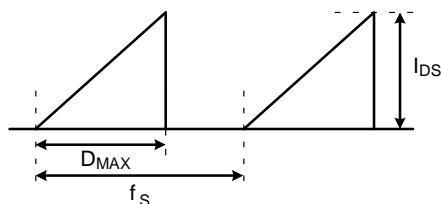

Figure 4. Repetitive Peak Switching Current
- Repetitive peak switching current when the inductive load is assumed: Limited by maximum duty ( $D_{MAX} = 0.73$ ) and junction temperature (see Figure 4).